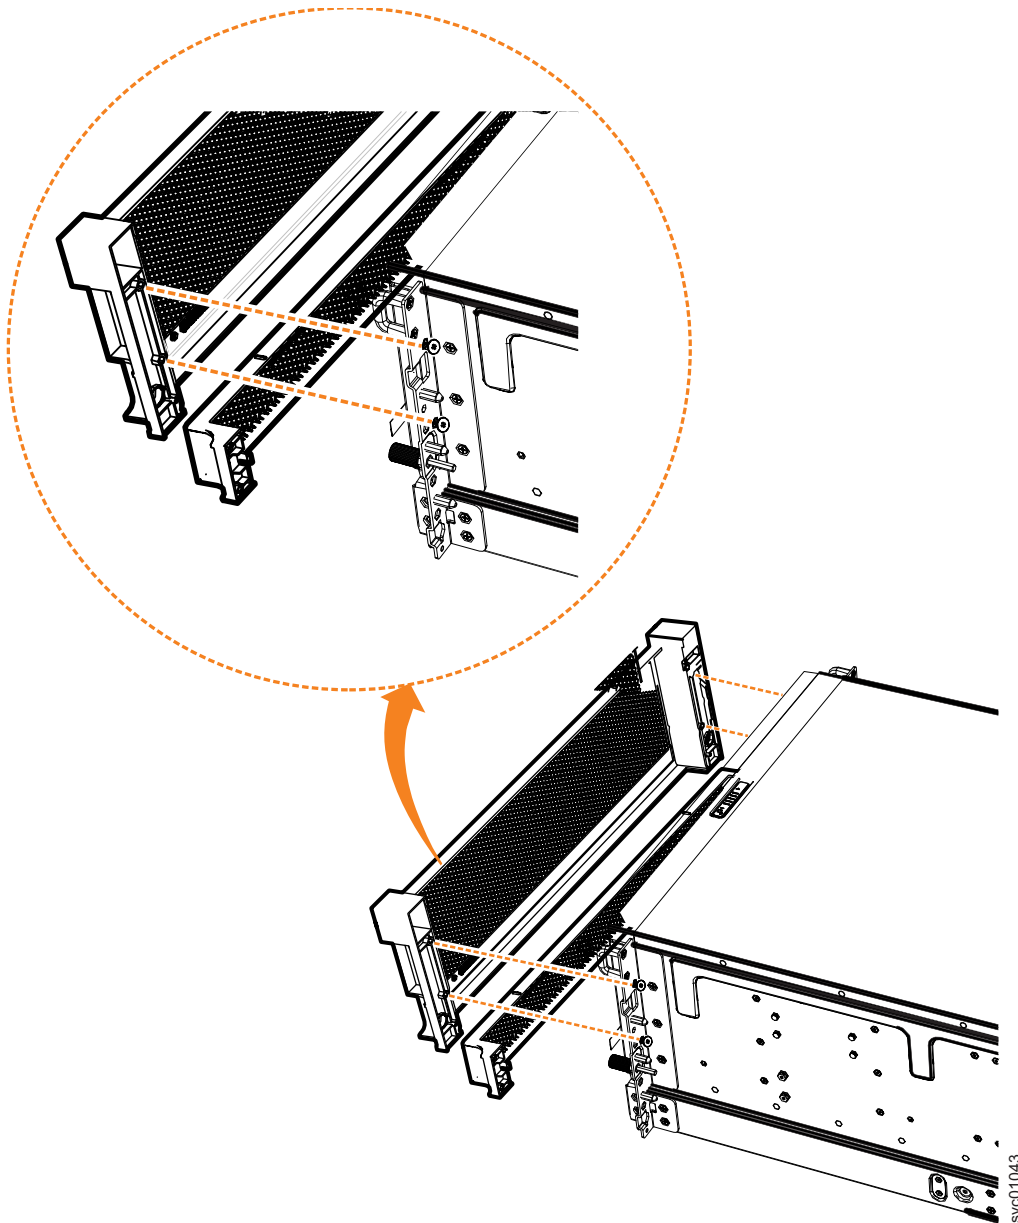

Figure 67. Remove fascia components from the expansion enclosure
2. Remove the front fascia by removing the two screws that attach the fascia to the flange on each side of the chassis, as shown in Figure 67 on page 84.
3. Gently pull on each side of the PSU fascia to remove it from the chassis, as shown in Figure 67. The PSU fascia will disengage from the slot and pin that connect it to each side of the chassis